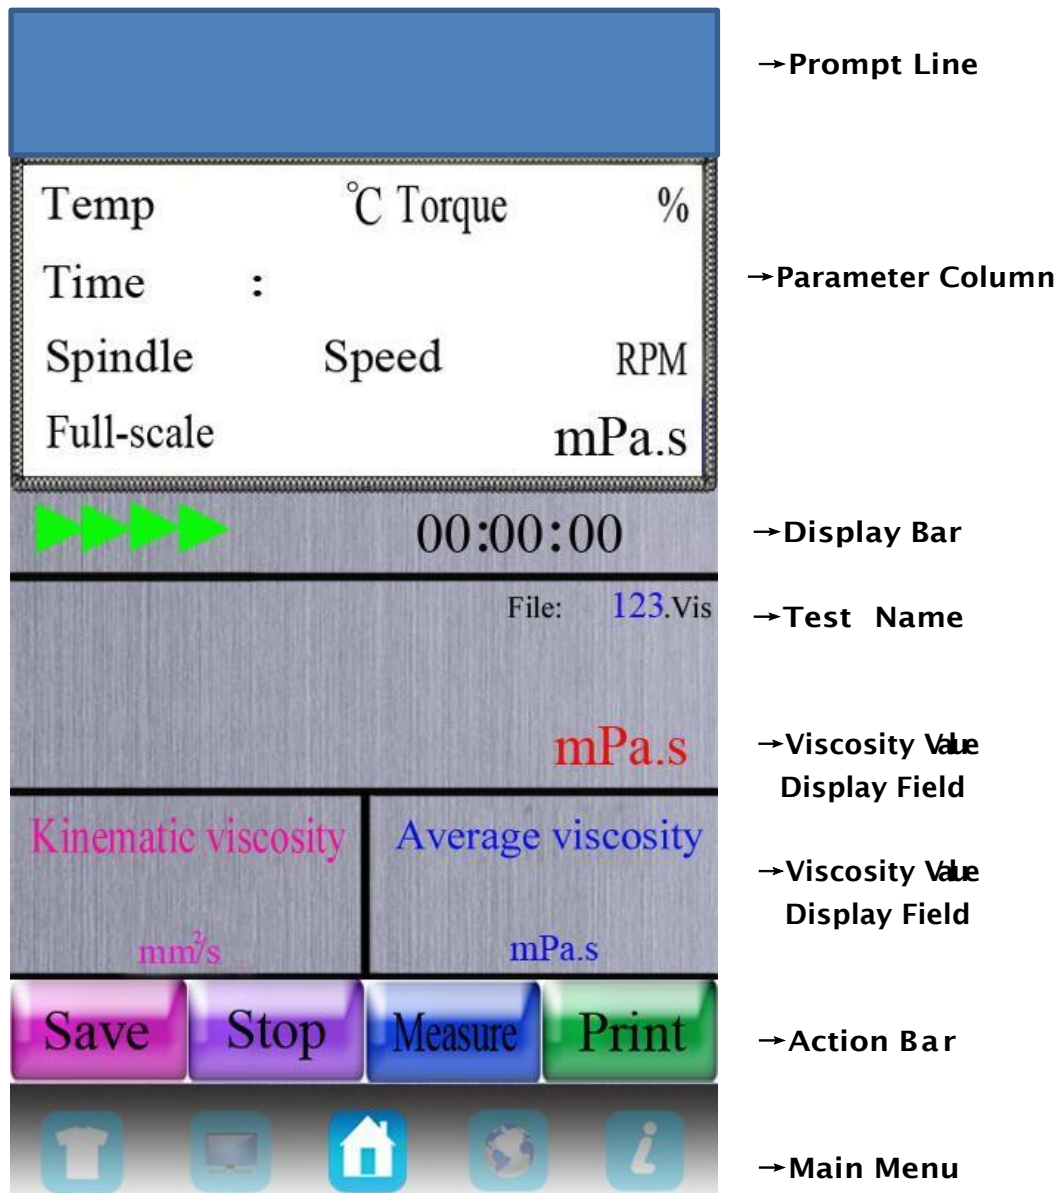

FIG.10
4. Click the "viscosity" icon after parameter setting, as FIG. 10.